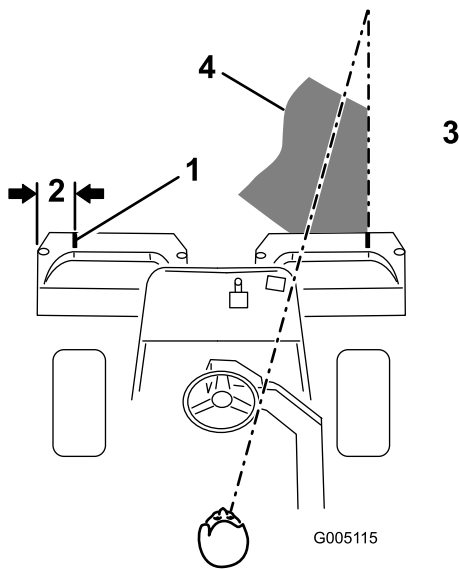

Figure 38
2. Either place a strip of white tape or paint a line onto each basket paralleling the outer edge of each basket (Figure 38).